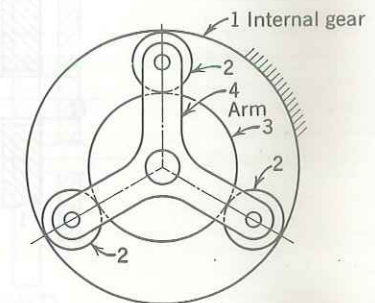

FIGURE 7.48
- 7.41. In the planetary gear train shown in Fig. 7.48, the carrier (link 4) is the driving member and the sun gear (link 3) is the driven member. The internal gear is held stationary. The sun gear is to rotate 2.5 times the speed of the carrier. The pitch diameter of the internal gear is to be approximately 12.5 in. (a) Design the gear train by determining the numbers of teeth for the internal gear, the sun gear, and the planets using 8 diametral-pitch, 20° full-depth spur gear teeth. Hold the 12.5-in. pitch diameter as closely as possible. (b) Determine whether three equally spaced planets can be used in this drive.